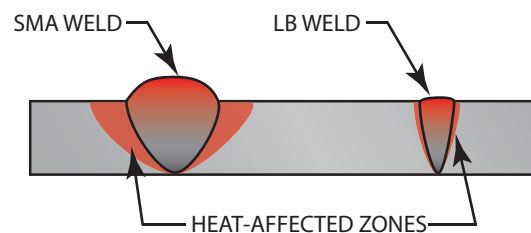

FIGURE 23-11 Comparison of weld size and heat-affected zone between SMAW and LBW processes.
- Welds can be made that are narrow and have deep penetration, Figure 23-11.